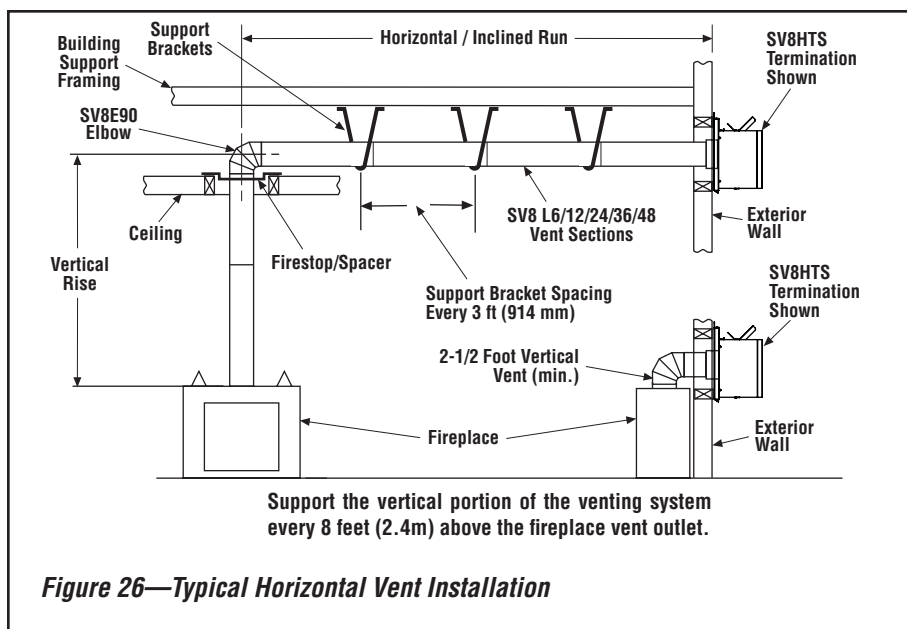

Figure 26—Typical Horizontal Vent Installation
G. Continue installation of horizontal/inclined sections—Continue with the installation of the straight vent sections in horizontal/inclined run as described in **Step C**. Install support straps every 3 ft (914 mm) along horizontal/inclined vent runs using conventional plumber's tape. **See Page 17, Figure 26. It is very important that the horizontal/inclined run be maintained in a straight (no dips), slightly elevated plane.** The recommended incline is approximately 1/4" per foot (20 mm per meter) horizontal, in a direction away from the fireplace. The rise per foot run ratios that are smaller are acceptable all the way down to at or near level. Use a carpenter's level to measure from a constant surface and adjust the support straps as necessary.
See **Figures 26–31** and their associated Horizontal Vent tables that illustrate the various horizontal venting configurations that are possible for use with these appliances. **Secure Vent®** pipe applications are shown in these Figures. A Horizontal Vent table summarizes each system's minimum and maximum vertical and horizontal length values that can be used to design and install the vent components in a variety of applications.
See **Figure 26**, *It is very important that the horizontal/inclined run be maintained in a straight (no dips), slightly elevated plane. The recommended incline is approximately 1/4" per foot (20 mm per meter) horizontal, in a direction away from the fireplace. The rise per foot run ratios that are smaller are acceptable all the way down to at or near level.*